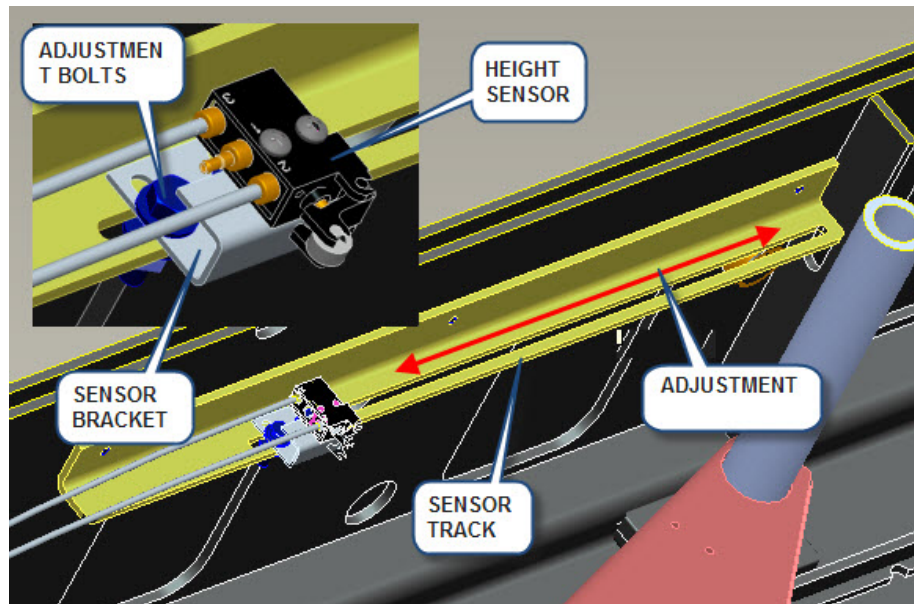

Figure 16 - Upper limit proximity sensor
2. The limit switch (see Figure 16) should automatically stop the lift once the 72" working height (bottom of baseframe to top of runway) is reached. **NOTE: Switch must be installed in front of the cross-tube.**